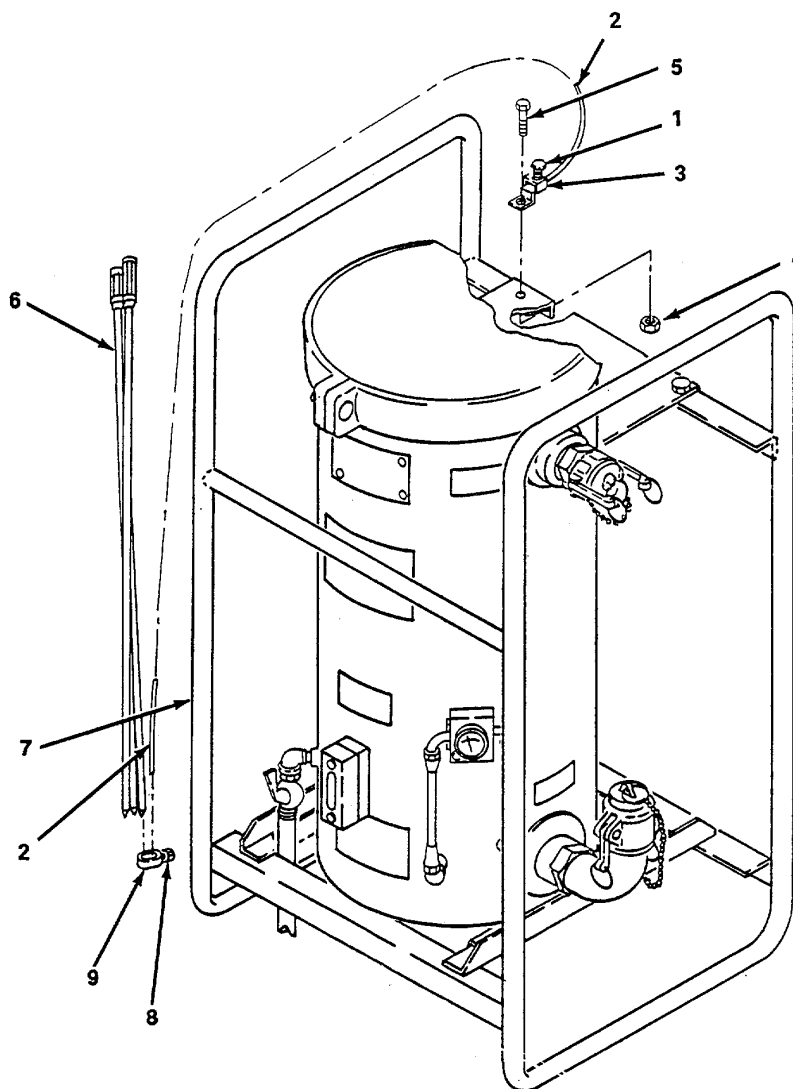

Figure 4-17. Grounding Rod Assembly, Repair.
a. Repair. (figure 4-17)
- (1) Loosen screw (1) and remove strap (2) from clamp (3).
- (2) Remove locknut (4) and screw (5) and remove clamp (3).
- (3) Remove grounding rods (6) from frame (7).
- (4) Loosen screw (8) and remove strap (2) and clamp (9) from grounding rods (6).
- (5) Inspect grounding rods (6) and replace if threads are stripped or rods (6) are bent or otherwise damaged.
- (6) Inspect strap (2) and replace if wires are frayed, broken or otherwise damaged.
- (7) Inspect clamps (3) and (9) and replace if cracked or otherwise damaged.
- (8) Install clamp (9) on rods (6), insert strap (2) in clamp (9) and tighten screw (8).
- (9) Install clamp (3) and secure with screw (5) and nut (4).
- (10) Install rods (6) on frame (7).